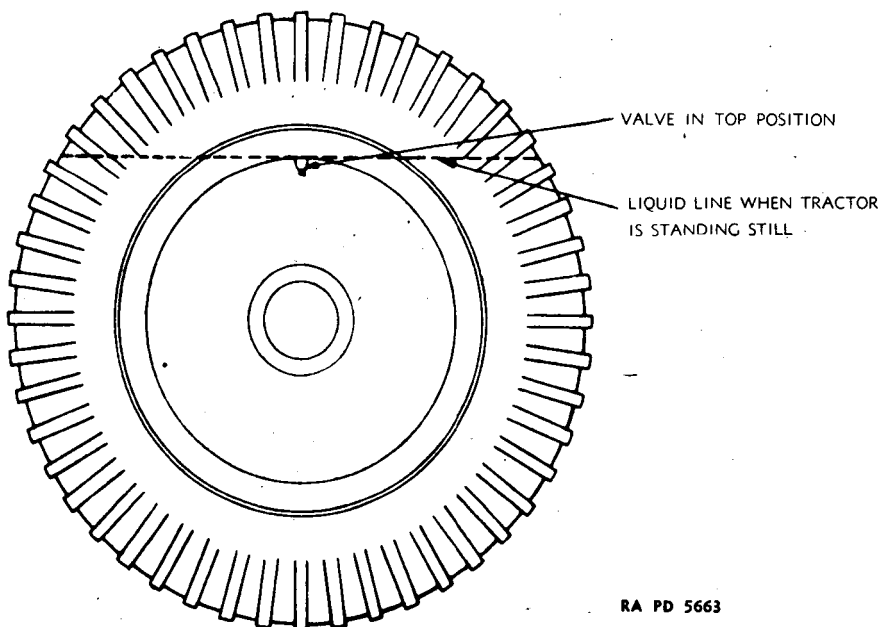

FIGURE 26.—Hydromatic rear tire.
- (1) Remove the liquid from the tires as in paragraph 64c.
- (2) Jack up the rear wheel.
- (3) Remove the rim clamps by taking off the eight wheel nuts and their lock washers with the wrench provided.
- (4) Remove tire and rim from the wheel.
- (5) Dismount and replace tire from rim as described in paragraph 61.
64. Hydromatic rear tires.—*a. Description.*—To obtain maximum traction and stability for the tractor, the rear tires are of the hydromatic type, that is, partly filled with liquid (fig. 26). The liquid adds weight to the tractor near the ground, lowering the center of gravity, and tends to eliminate bouncing to a great extent. To prevent freezing, the liquid used in the tires is a solution of calcium chloride and water. The solution prescribed below will in no way harm the casing, tube, or valve, and will not freeze at temperatures as low as -40° F.